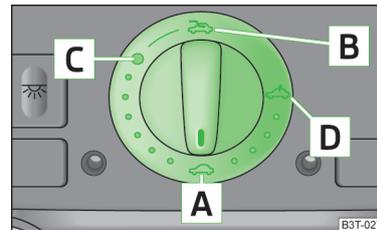

Fig. 46
- If the battery has been disconnected and reconnected, it is possible that the sliding/tilting roof does not operate correctly. In this case, turn the rotary switch to the switch position **A** » Fig. 46 on page 64 and push forward for about 10 seconds.
- Turn the switch to position **C** » Fig. 46.
The sliding/tilting roof is fitted with a force limiter. If an obstacle (e.g. ice) prevents closing, the sliding/tilting roof stops and opens completely. The sliding/tilting roof can be closed completely without the force limiter by pushing the switch in position **A** » Fig. 46 forwards until the sliding/tilting roof is completely closed.